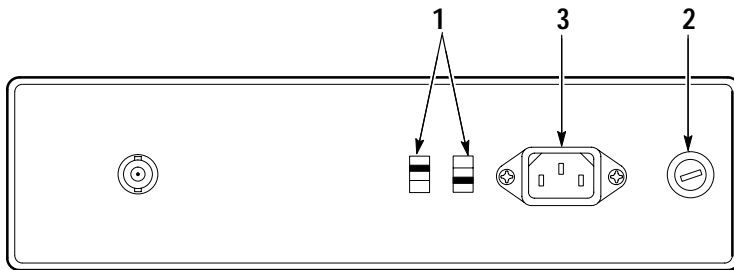

Figure 1: Line Voltage Selectors, Power Input, and Fuse Locations
Check the following items prior to operating the frequency counter for the first time (see Figure 1 for locations of items 1 through 3):